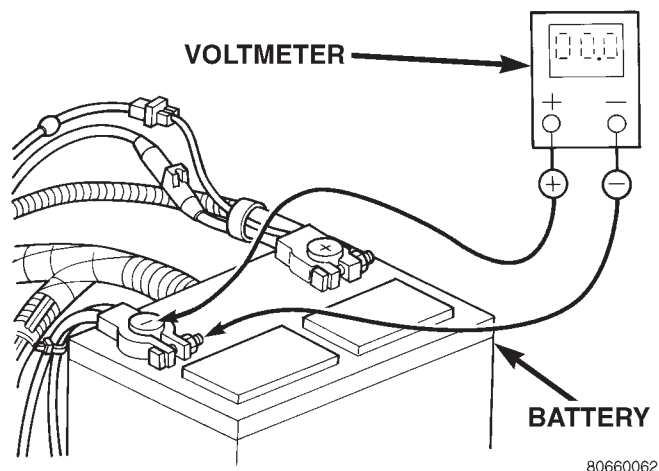

Fig. 4 Test Battery Negative Connection Resistance - Typical
(1) Connect the positive lead of the voltmeter to the battery negative terminal post. Connect the negative lead of the voltmeter to the battery negative cable clamp (Fig. 4). Rotate and hold the ignition switch in the Start position. Observe the voltmeter. If voltage is detected, correct the poor contact between the cable clamp and the terminal post.